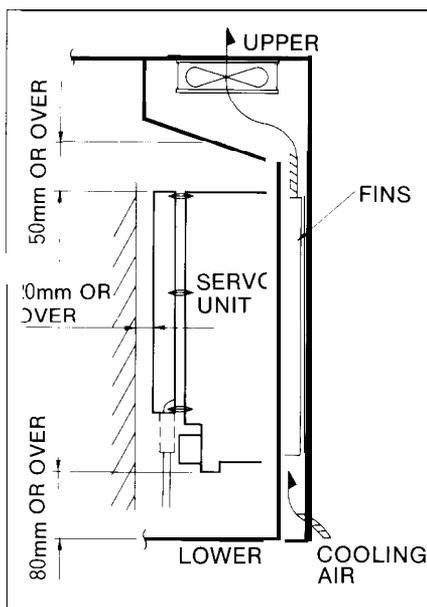

Fig. 5.1 Mounting of Servo Unit (Side View)
- (1) The servo unit is a wall-mounted type and should be secured with screws or bolts vertically (so that the printed circuit boards can be seen from the front). (See Fig. 5.1.)
- (2) Mount the servo unit so as to allow easy checking, removal and reinstalling during maintenance work.
- (4) Expose the radiator fin outside the cabinet and allow the outside air to blow on it to reduce internal thermal loss. (See Fig. 5.1.) This will help reduce the capacity of the heat exchanger even when it is required.
- (5) When circulating air inside the cabinet, do not allow forced air to blow directly on the servo unit (to prevent dust from collecting on the unit).
- (6) The regenerative resistor generates heat. Full precautions should be given to location of the regenerative resistor and do not place it near components easily affected by heat because a high temperature develops with extremely high frequency in use such as rapid transverse, start and stop.
- (7) Clamp the detector (P. G) cable that enters the servo unit to the ground plate inside the cabinet with the cable clamping fixtures. (See Clamping Cables and Grounding Cable Shield described in Par. 6.2.) Make sure to clamp the cable because it is necessary to operate the system properly and to protect it from malfunctioning due to noise